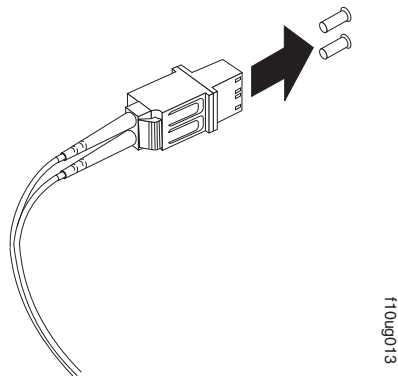

Figure 37. Removing the LC-SC cable adapter protective caps
3. Remove the two protective caps from the LC connector end of the LC-SC cable adapter as shown in Figure 37. Save the protective caps for future use.